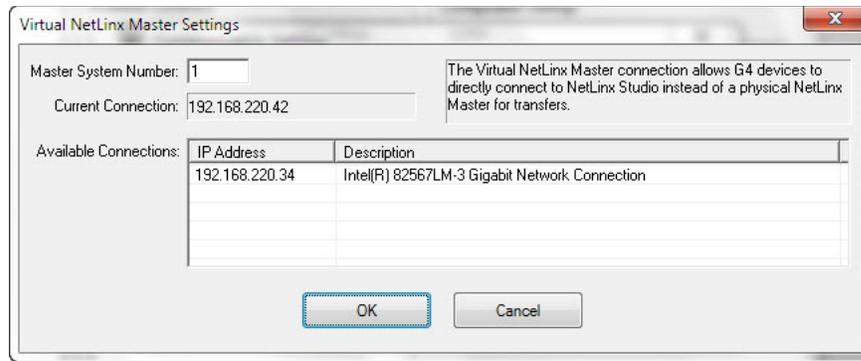

FIG. 31 Virtual NetLinX Master Settings
5. Click the **Edit Settings** button on the *Communications Settings* dialog to open the *Virtual NetLinx Master Settings* dialog (FIG. 31).